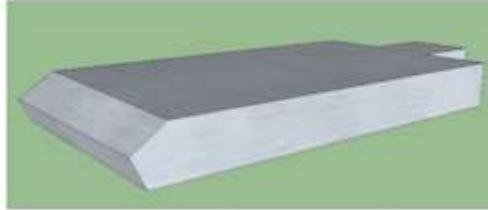

Figure 1
- Figure 1 is the negative rake. Unlike most scrapers where the top is flat, a negative rake scraper has an additional bevel on top. This bevel gives the tool a negative rake.